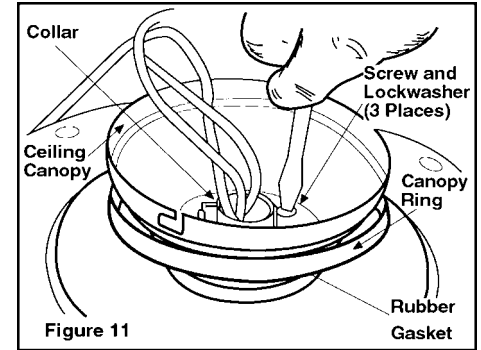

Figure 11
5. Place the rubber gasket over the remaining three screws, route the wires exiting the top of the Room Conditioner motor through the canopy ring (make sure the slot openings are on top), then proceed to place the ceiling canopy over the collar at the top of the motor (Figure 11).